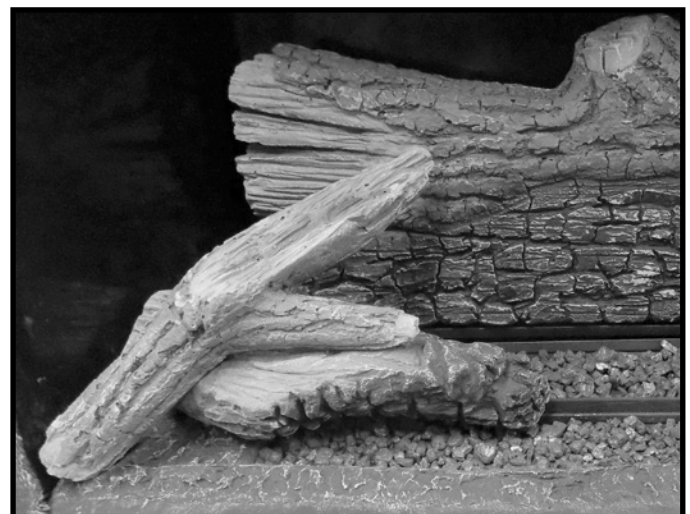

Figure 77: 3rd log position.
11. Place log number three (Figure 57) so that the post protruding from the bottom of the log can be inserted into the hole of the left-hand base piece. Then position the front of the log so that it rests on top of the front base piece (Figure 77). The front of the log should be very close, or just touching the front base piece.